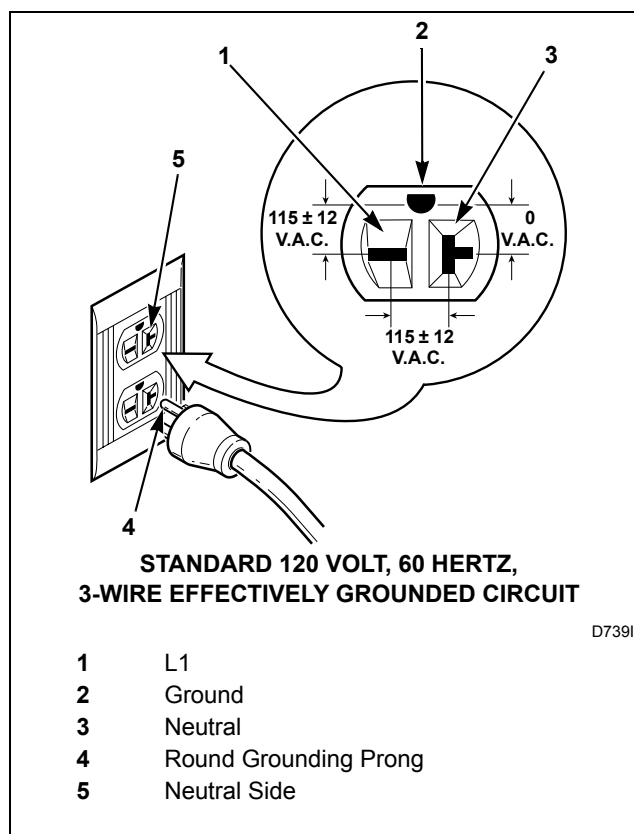

Figure 21
- The three-prong grounding plug on the power cord should be plugged directly into a polarized three-slot effectively grounded receptacle rated 120 Volts AC (alternating current) 20 Amps. Refer to *Figure 21* to determine correct polarity of the wall receptacle.